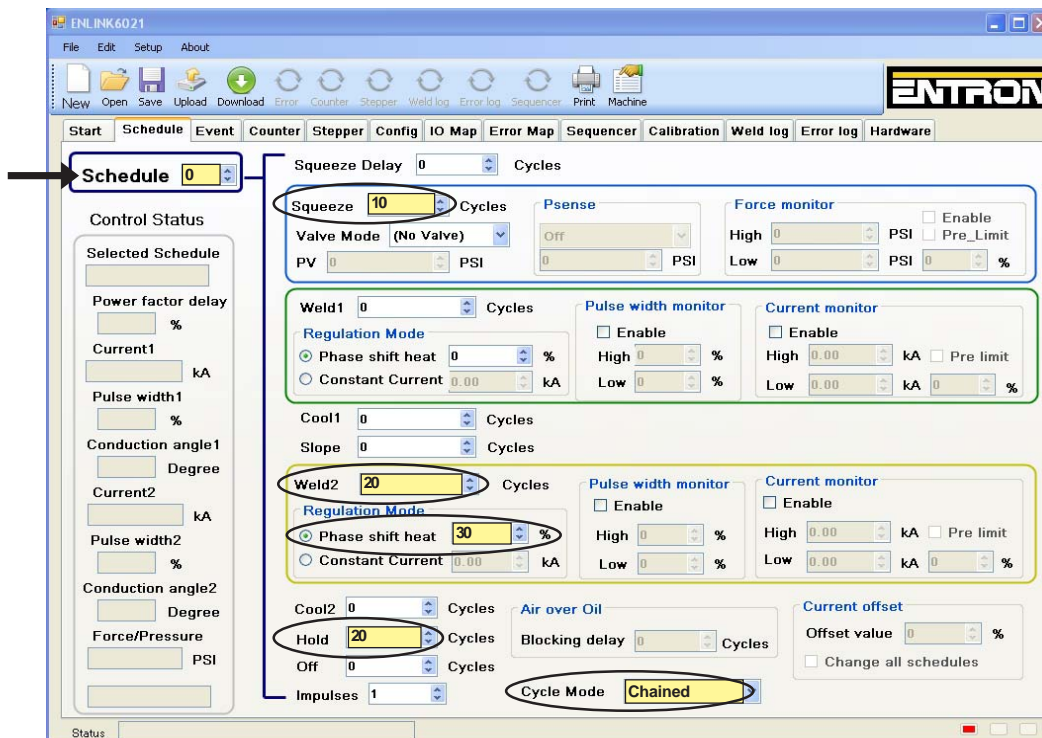

Figure 9-38. Edit SCHEDULES 0 through 2
- A. Edit SCHEDULES 0 through 3 as shown in Figures 9-38 and 9-39. Make sure to set CYCLE MODE to Chained for SCHEDULES 0, 1, and 2 and set CYCLE MODE to Non-repeat for SCHEDULE 3.